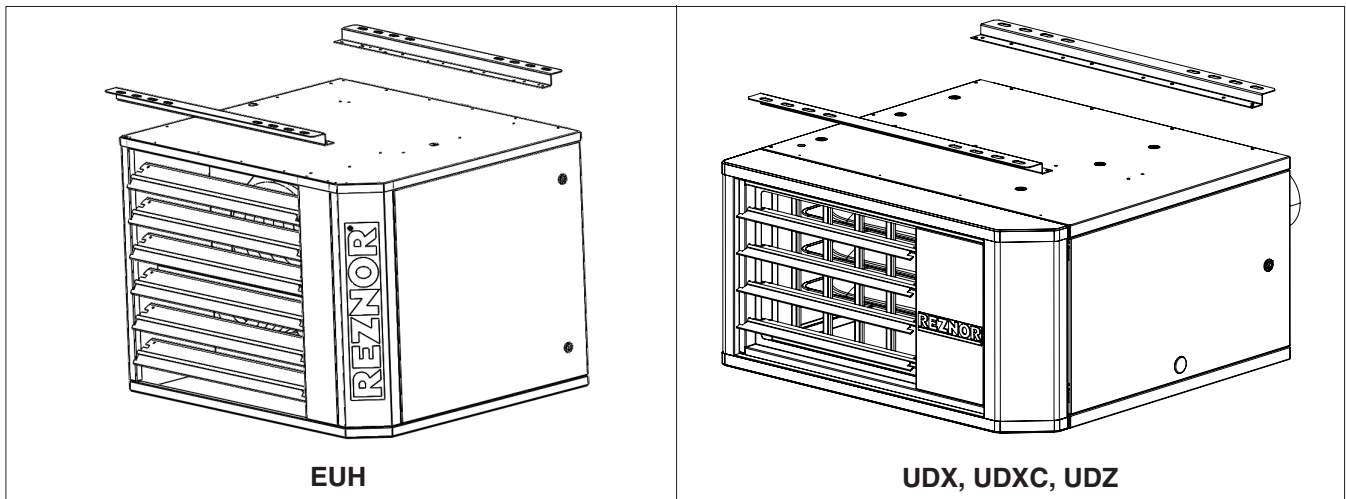

Figure 1. Ceiling Suspension Kit
- The ceiling suspension kit (see Figure 1) allows the heater to be installed 1 inch from the ceiling without hanger rods. For gas-fired unit heaters, the kit is used only on unit sizes 30–125.